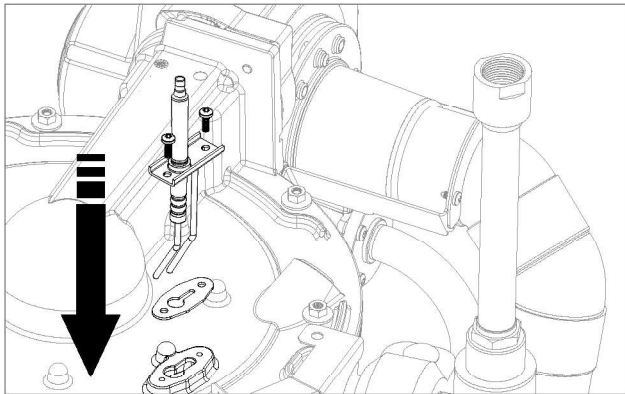

Fig. 4 - Prestige Solo & Excellence - New igniter Installation
1. Install the new igniter, with its new gasket, on the burner mounting plate support (See Fig. 4).